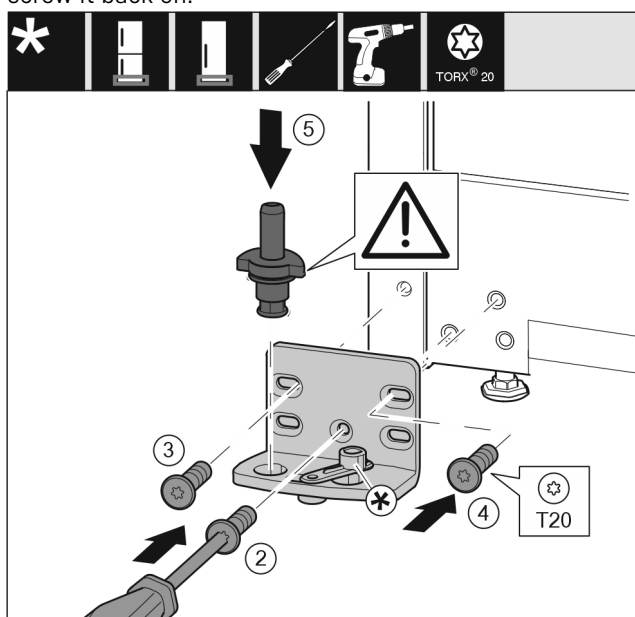

Fig. 17
- Place the swap bearing block on the other side and use a screwdriver to screw it on. Start with the screw Fig. 17 (2) at the bottom in the middle.
- Tighten screw Fig. 17 (3) and screw Fig. 17 (4).
- Insert the bearing bolt Fig. 17 (5) completely. Ensure that the latching cam is pointing towards the rear.